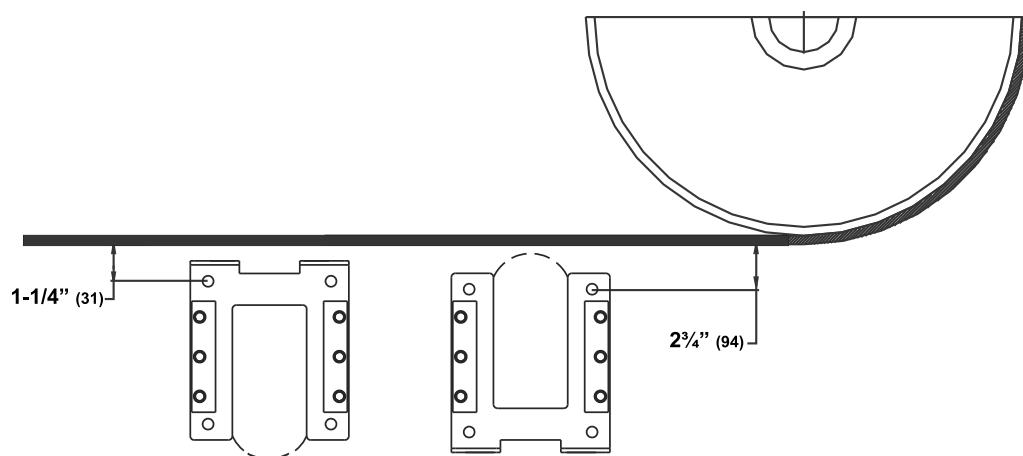

Figure 3. Mounting Bracket Height Locations for Pull-Up & Push-Up Positions
The center of the top mounting holes of the Mounting Bracket should be located 2.75" [70mm] below the bottom edge of the belt. *Refer to Figure 3.*
The center of the top mounting holes of the Mounting Bracket should be located 2.25" [58mm] below the bottom edge of the belt. *Refer to Figure 3.*
If the brackets are to be mounted to an enclosed chute, an elongated hole will have to be cut into the chute wall to allow the blades and the mounting tube to pass through from one side of the conveyor to the other. See *Fig. 3*.
- The Chute Opening slot should be located flush with the U-Shaped notch in the Mounting Bracket, as shown in *Figure 3*.